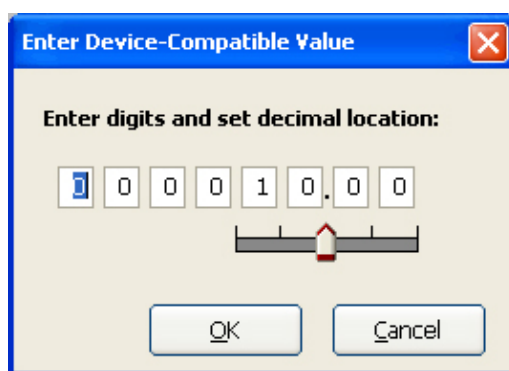

Figure 4.32—Data-entry screen for pulse output scale factor
3. Click on the pencil icon next to the scale field to open a data-entry window (Figure 4.32), and enter the scale factor. Adjust the decimal position, if necessary, using the slide bar. The scale factor sets the volume increment that will cause a pulse output to occur. The unit for this factor is determined by the unit set for the volume display.